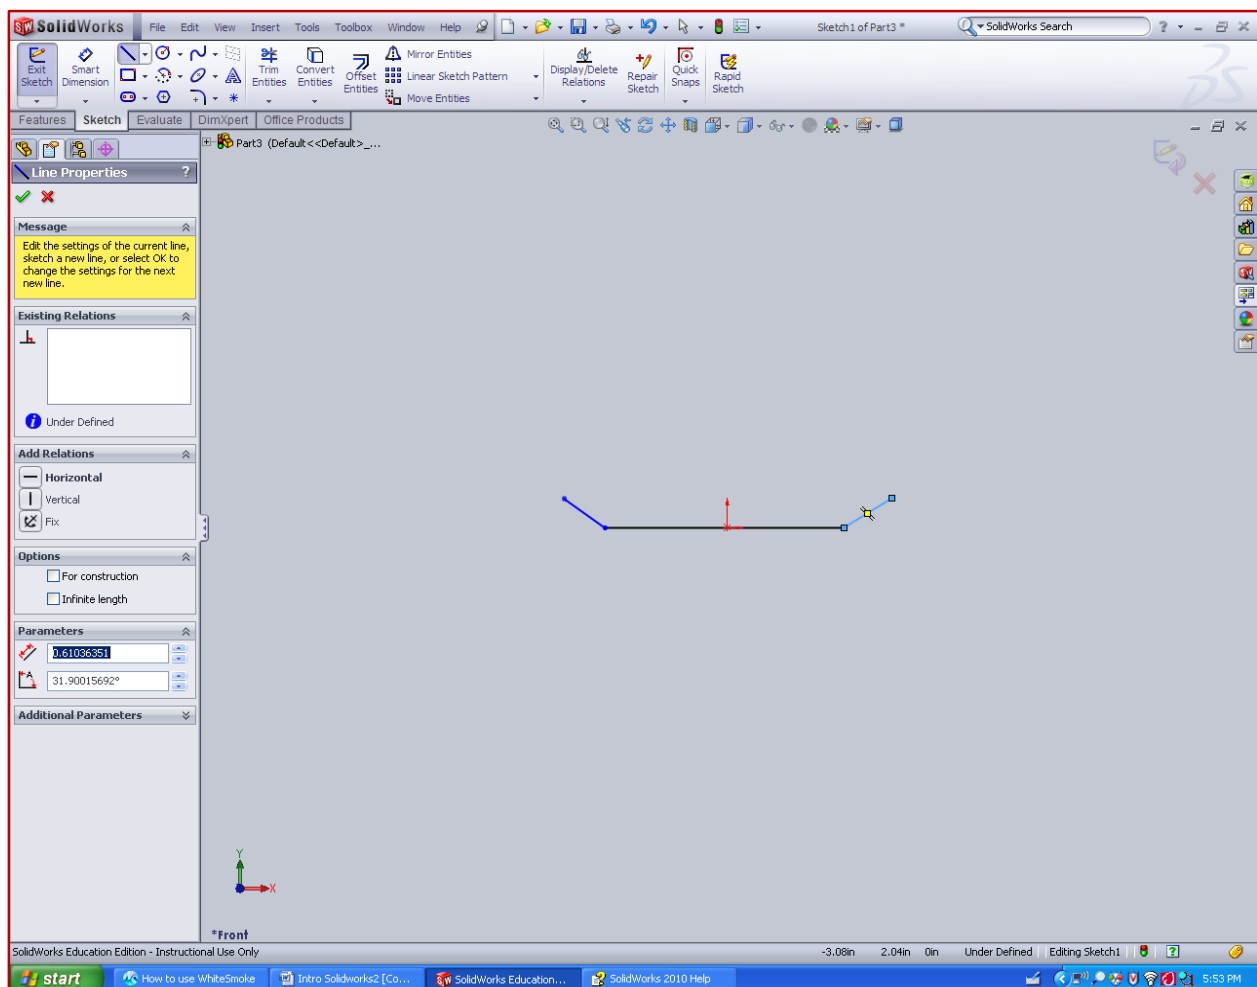

Figure 3.3 – Sketching the Skateboard Cross-section
Step 13: In the **CommandManager**, click the **Sketch** toolbar. This will make it active and the sketch commands will become visible. Next, click the **Line** command and sketch the skateboard cross-section as shown in Figure 3.3.